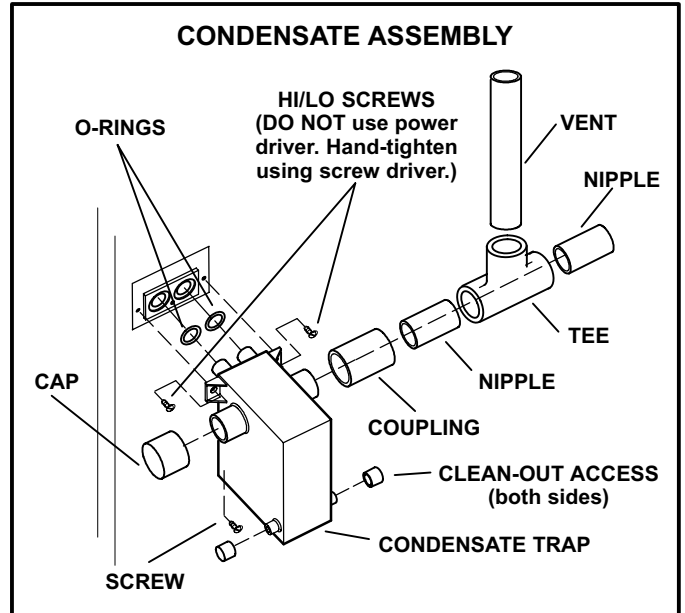

FIGURE 34
- Install condensate trap onto the condensate collar. Use provided HI/LO screws to secure two upper flanges of the trap to the collar. Use provided sheet metal screw to secure bottom trap flange to side of unit. See figure 34.